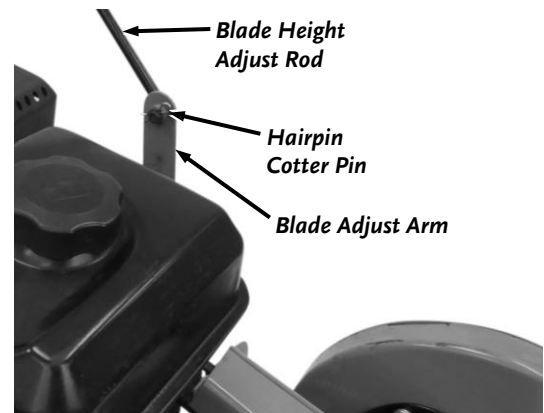

Figure 21
1. Remove the Hairpin Cotter Pin and disconnect the lower end of the Blade Height Adjust Rod from the Blade Adjust Arm (**Figure 21**).